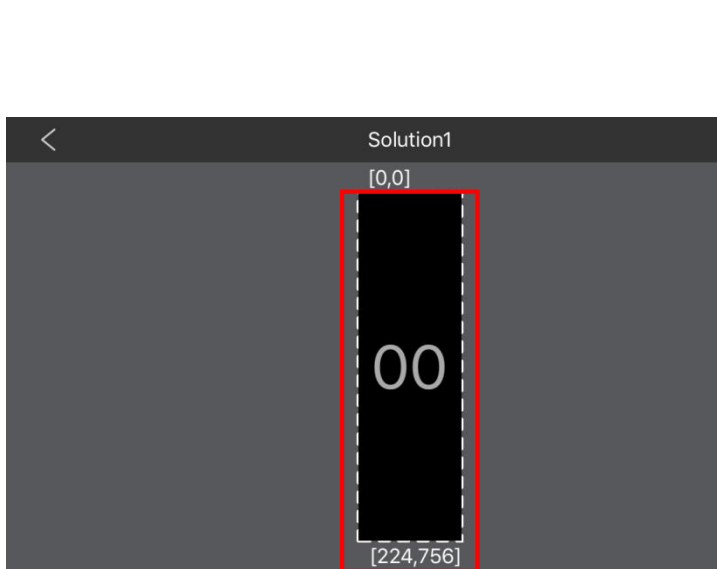
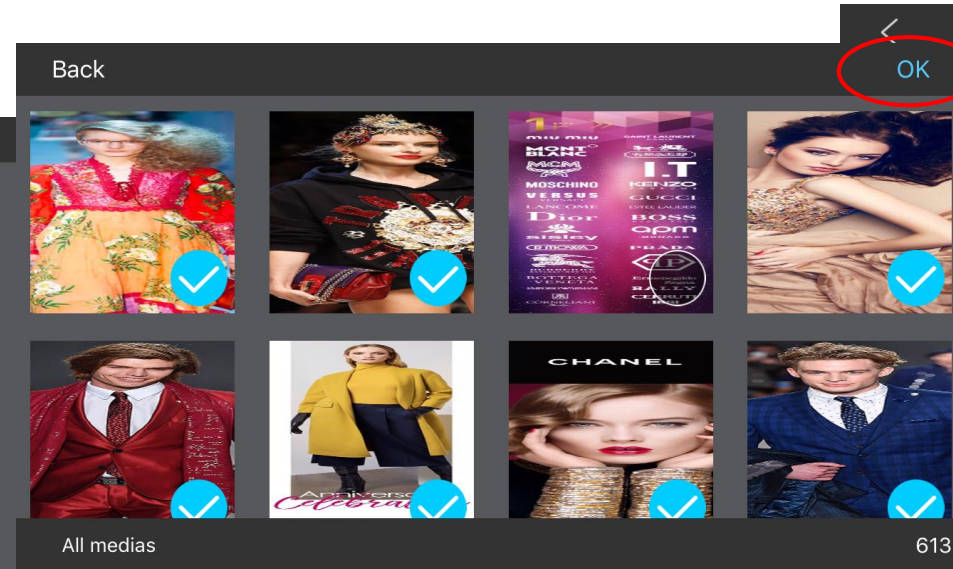

fig 7.17
fig 7.18
g. Open [Media Library], choose the content and click [ok], please refer to fig 7.17 and fig 7.18.